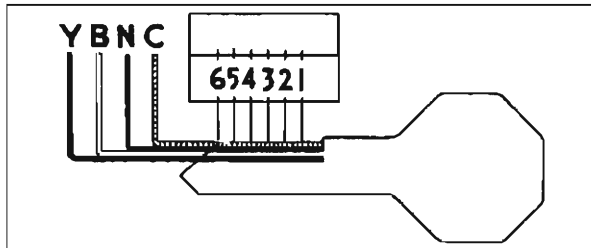

Fig. 15—Tumbler Requirement Diagram
In cases where a code book is not available, the diagram as shown in Figure 15 may be used to determine the tumblers required to assemble as uncoded lock cylinder.
1. Lay the key on the diagram (fig. 15) with the bottom of the key flush with the edge of the drawing, head and point carefully lined up.